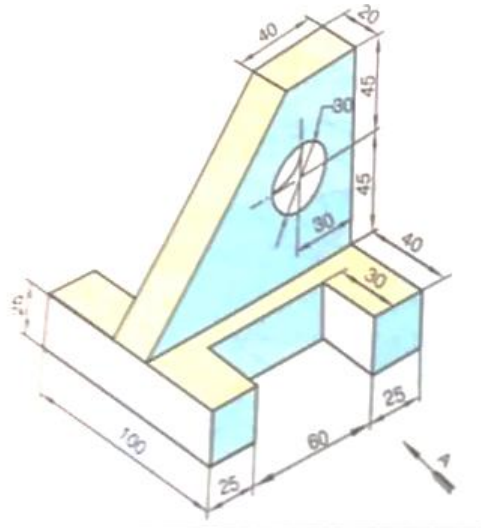

Fig.10.3
3. Draw the front view, side view and top view for the below Fig.10.3.